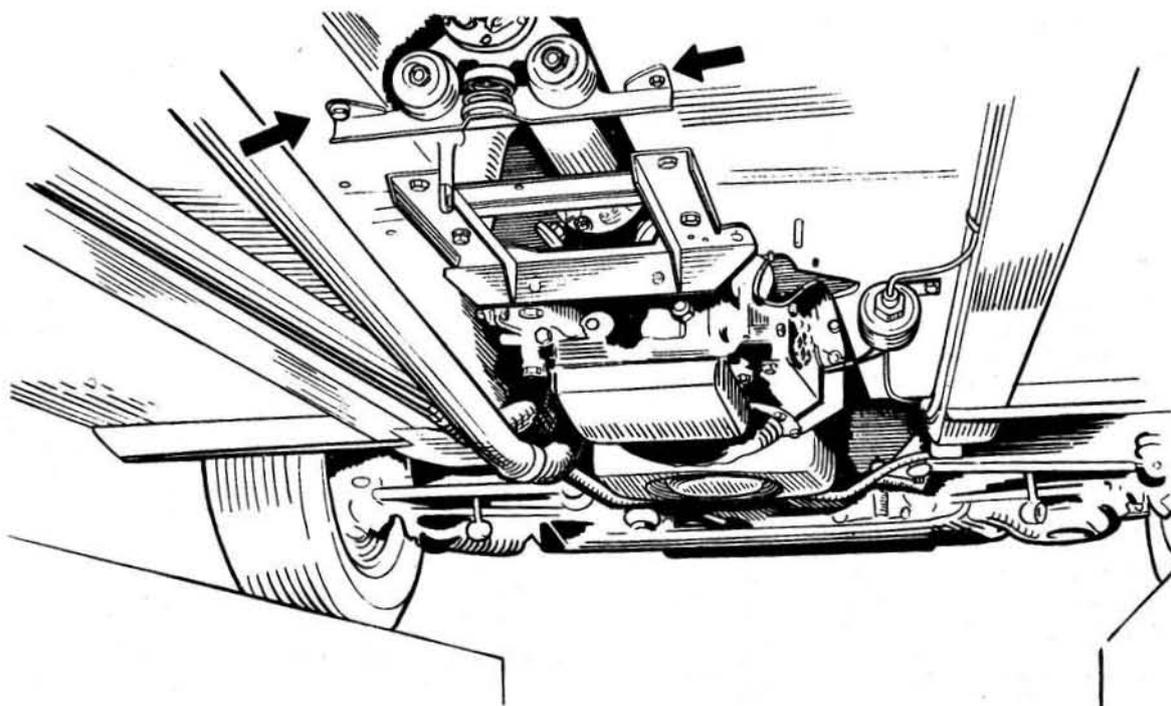

Fig.7.9. Showing location of the adjusting shims
- 6 Misalignment can be corrected by aiding or subtracting shims between the centre bearing bracket mounting and the body. (See Fig.7.9).